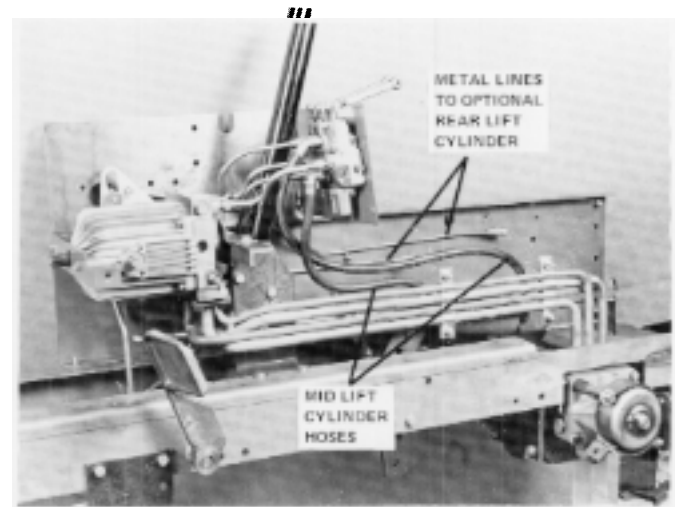

Fig. 7-9 D-Series Hydraulic Hose Routing
2. Disconnect hoses from front and rear of cylinder. Note connections for reinstallation. See Fig. 7-9.
3. Remove hoses at cylinder and valve assembly. See Fig. 7-9.